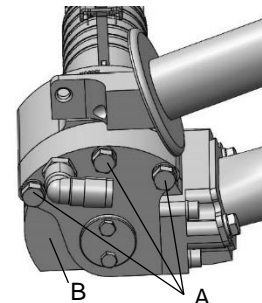

Fig. 7.1 – Counter-bearing
- 2) Loosen the screws (A) and remove the counter-bearing (B), see Fig. 7.1.